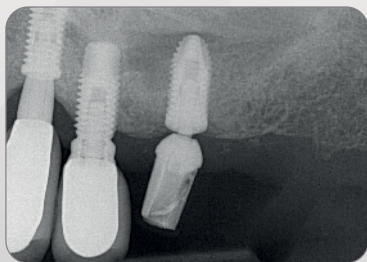

Figure 2.
- Fractured two-piece abutment (Figure 2);